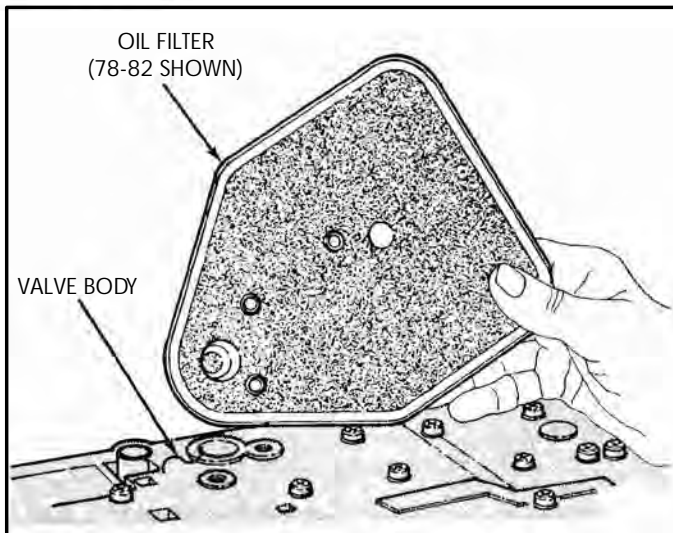

Figure 31
9. Remove and discard the oil filter, as shown in Figure 31. **Note: We have shown the 78-82 model filter in Figure 31. The filter changes in 1983, but we will discuss this on assembly.**